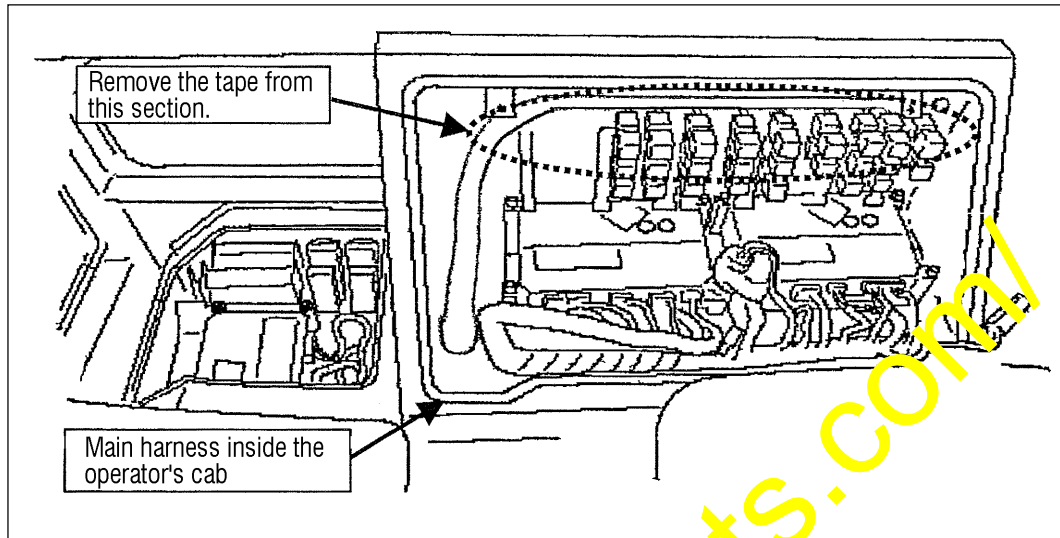
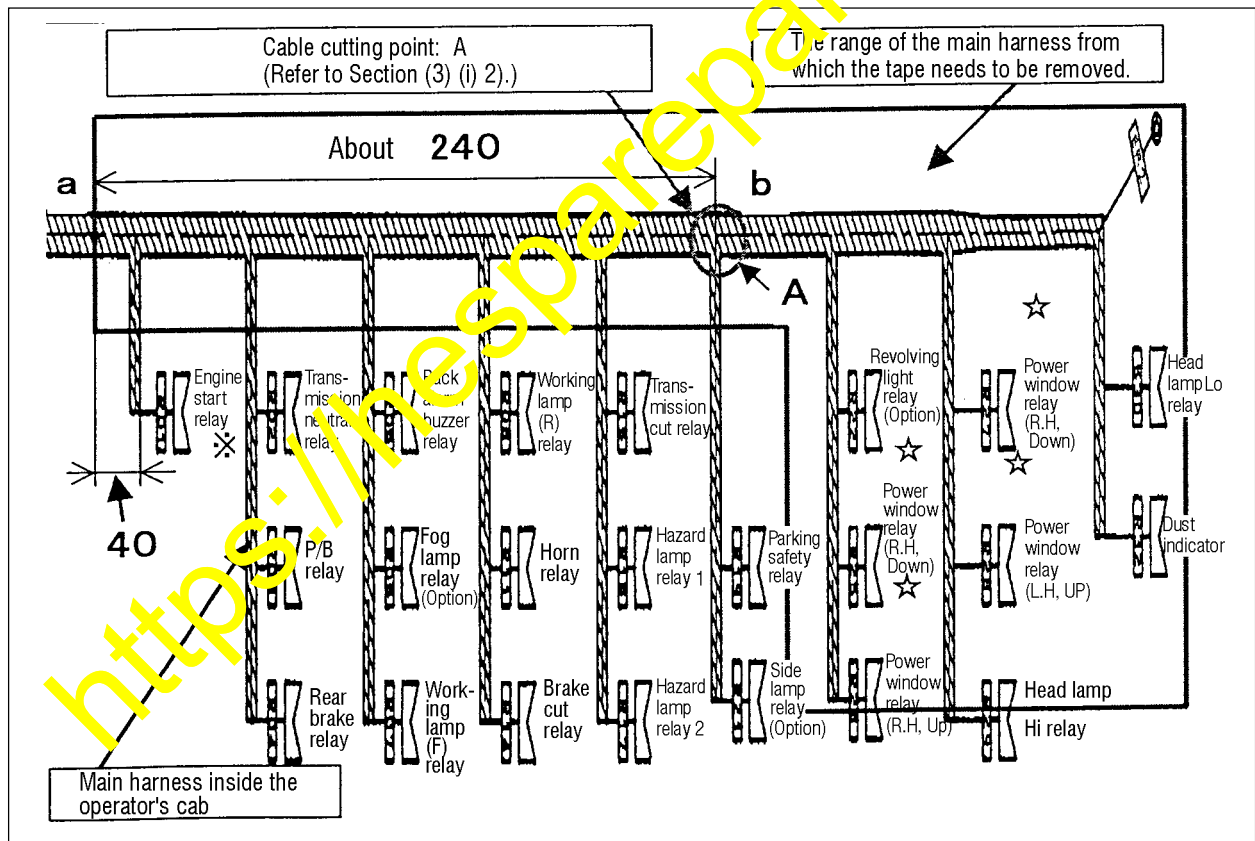

Fig. 3
Fig. 4
(2) Modification procedure for the main harness inside the operator's cab
- (i) Remove the tapes from the main harness inside the operator's cab at the sections connecting to the relays. (Refer to Fig. 3 and Fig. 4.)
(R25, R26, R27 and R28 : sections marked ☆ in Fig. 4 to the new connector (PWJ)
- 2) Cut the separated leads at a point near the section "A" (Note 4) (Refer to Fig. 4.) once again at equal lengths (The distance a-b in Fig. 4: (240 mm)) (Note 3) and remove the insulation covering by 7 mm.